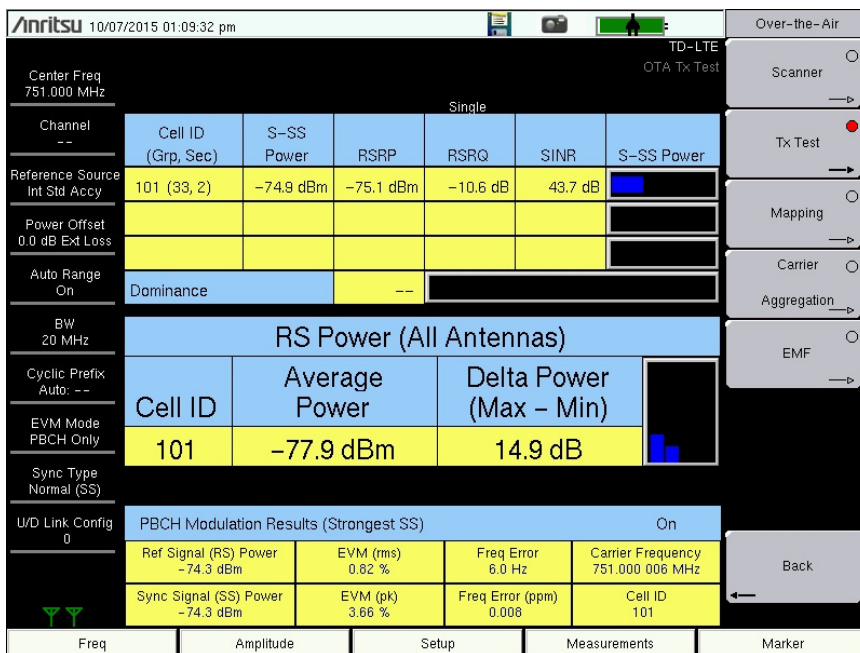

Figure 6-13. Over-the-Air Tx Test Measurement
3. Press the **Tx Test** submenu key to activate the OTA Tx Test display (Figure 6-13 on page 6-21). Press the **Tx Test** key again to display the OTA Tx Test menu.